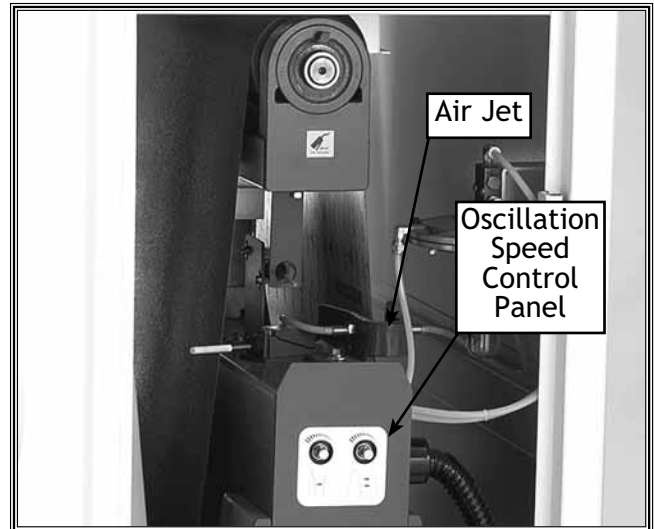

Figure 15. Oscillation system.
- If you want the belt oscillation to oscillate from left to right in shorter and faster sweeps, loosen the jam nut and then rotate the oscillation speed control dial counter-clockwise. See **Figures 15** and **16**.
- If you want the belt oscillation to oscillate from left to right in longer and slower sweeps, loosen the jam nut and then rotate the oscillation speed control dial clockwise. See **Figures 15** and **16**.